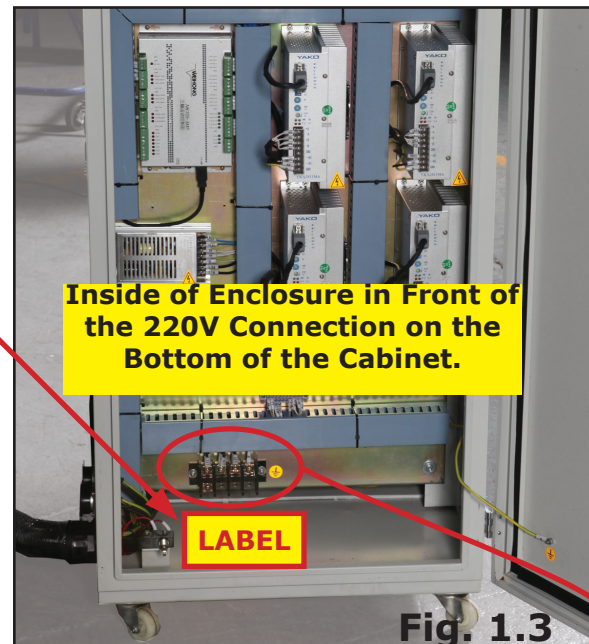
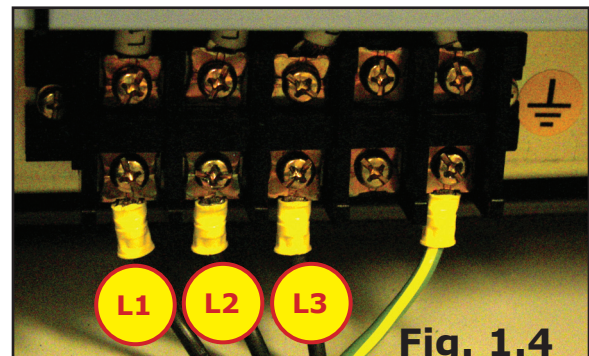

Fig. 1.3
Fig. 1.4
1.3 The electronics will now be visible (shown in Fig. 1.3) The terminals for the 220 volt connection are located at the bottom of the box (shown in Fig.1.4).